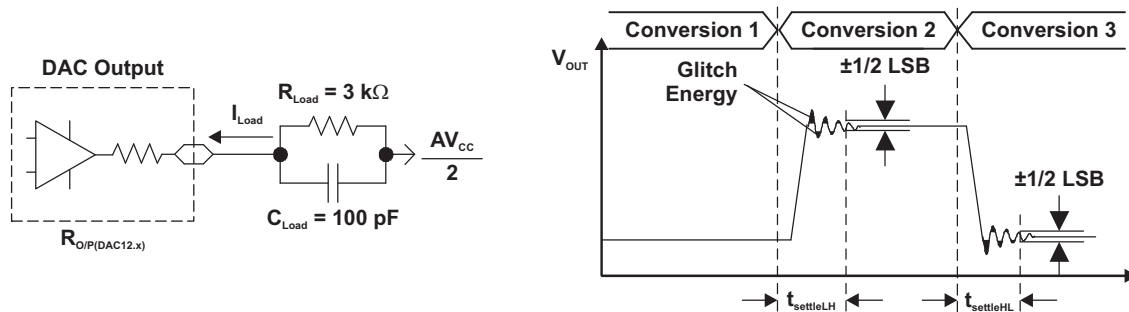
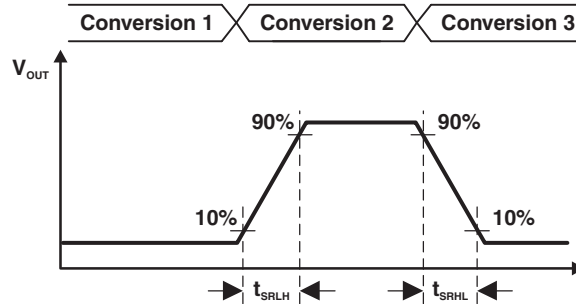

Figure 5-19. Settling Time and Glitch Energy Testing
Figure 5-20. Slew Rate Testing
V_{REF} = V_{CC}, DAC12IR = 1 (see Figure 5-19 and Figure 5-20), over recommended ranges of supply voltage and operating free-air temperature (unless otherwise noted)
- (1) R_{Load} and C_{Load} connected to AV_{SS} (not AV_{CC}/2) in Figure 5-19.
- (2) Slew rate applies to output voltage steps ≥ 200 mV.